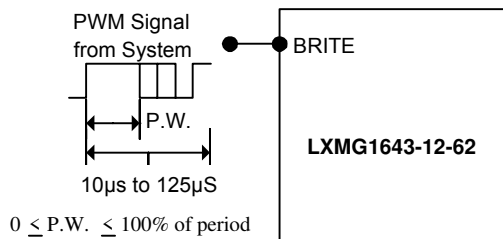

Figure 1A – PWM Brightness Control
- The brightness control may be a voltage output DAC or other voltage source, a digital pot or 20K manual pot. The inverter contains an internal 10K pull-up to bias the pot add a 1.8K resistor to set the lower threshold voltage. A 3.3V Logic Level PWM signal from a micro-controller may also be used as shown in Figure 1A.